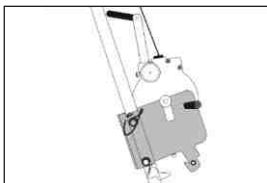

Fig. 2
- 3) Slide the metal part of the axis of the fall arrester in the gap of the plate (Fig. 2).